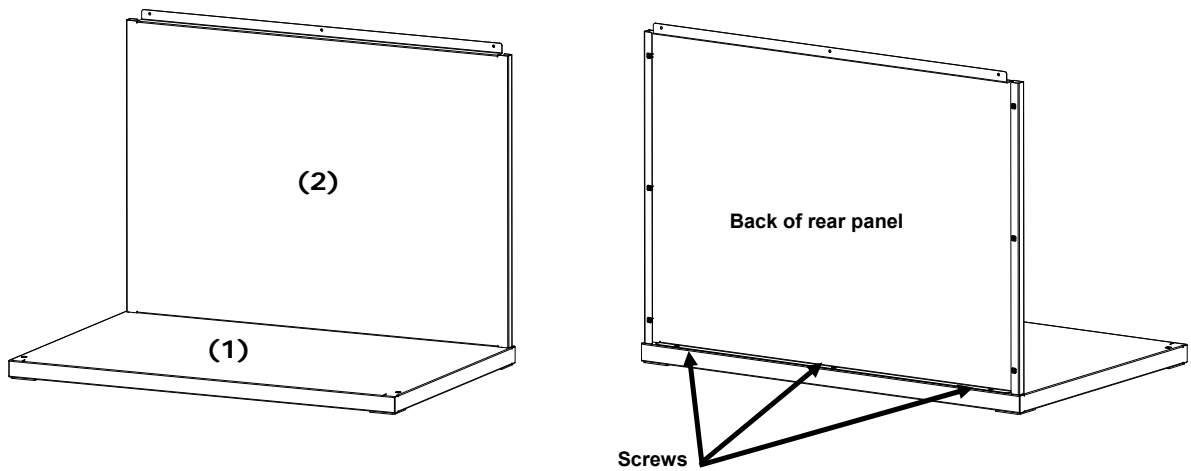

Figure 2. Rear into bottom panel
2. Position the rear panel (2) bottom tabs into the bottom panel (1) rear slots. Fasten the rear panel to the bottom panel by securing it with three screws as shown in figure 2.